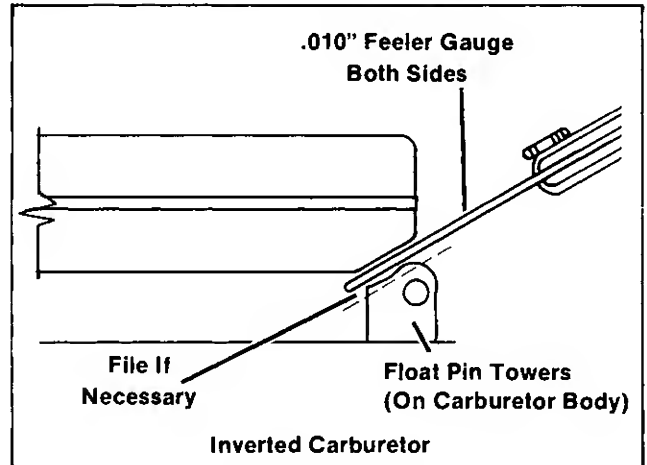

Figure 4-6. Checking Float Clearance
4. **Check float clearance.** Invert carburetor—check clearance between float and float pin towers with a $.010"$ feeler gauge. If feeler cannot be inserted or if there is interference between the float and towers, file the towers to achieve proper clearance. See Figure 4-6.